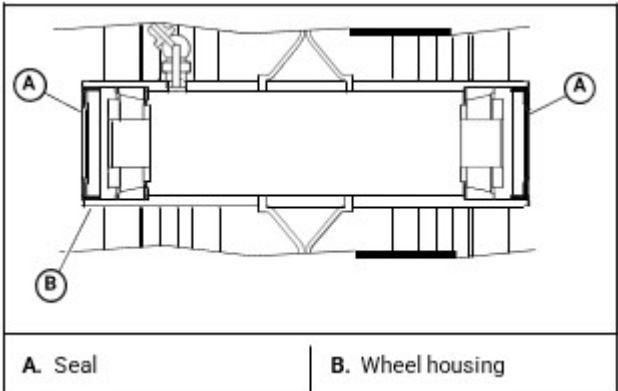

Figure 39
3. Insert the new tapered roller bearings into the outer bearing race. [Figure 39]
4. Insert the new seals into the wheel housing. Make sure that the flat side of the seal is flush with the outside edge of the wheel housing. [Figure 39]